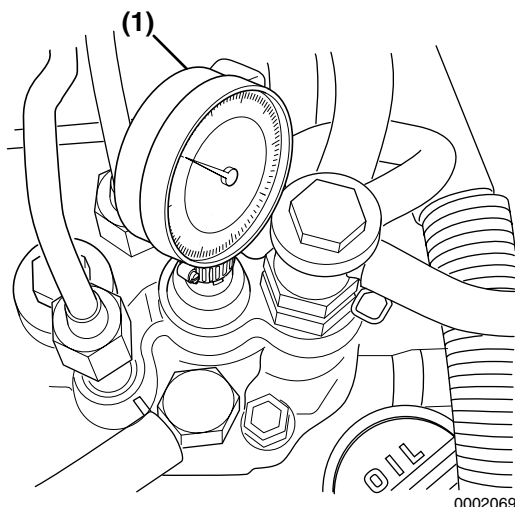

Figure 7-43
3. Note the reading on the dial indicator (**Figure 7-43, (1)**). If the reading is less than 2.5 mm (0.098 in.), the fuel injection timing is “retarded.” If the dial indicator reading is greater than 2.5 mm (0.098 in.), the fuel injection timing is “advanced.”